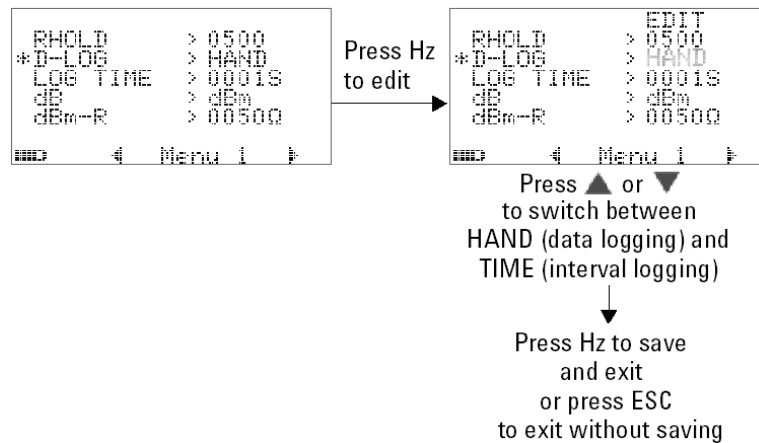

Figure 4-3 Data logging setup
- 1 Set to “HAND” to enable manual (hand) data logging, or set to “TIME” to enable interval (time) data logging. Refer to Figure 4-3 below.